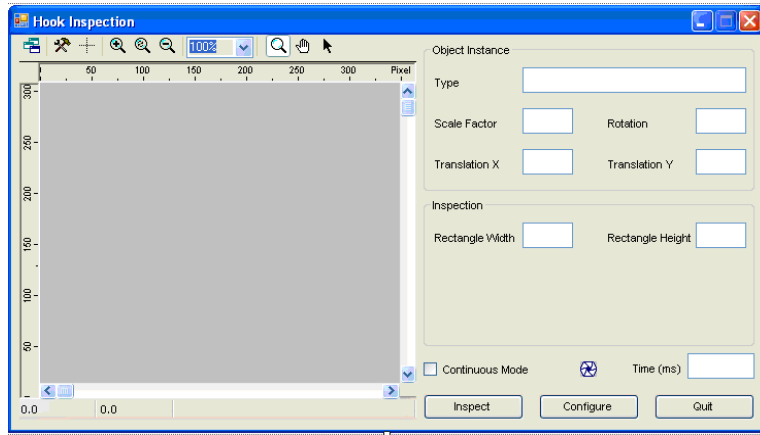

Figure 98 C# Form for Tutorial 3
1. On your application form, add a group box named **InspectionFrame** and add two text boxes, the first text box named **WidthText** and the second **HeightText**. Set up your form as illustrated in Figure 98.